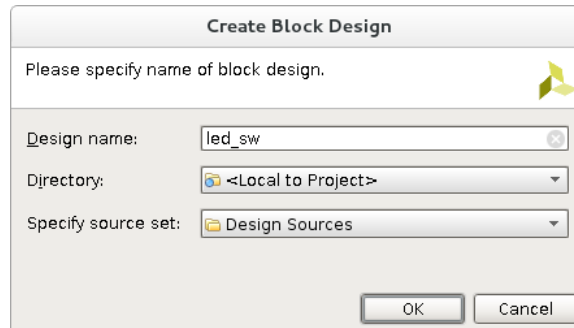

Figure 2: Create Block Design
- (d) On the left side, in the Flow Navigator under the IP Integrator section, click on 'Create Block Design'. A window opens where you can specify the name of your design(eg. led_sw). Leave the 'Directory' and the 'Specify source set' as they are. Click on the 'OK' button. (Figure 2)